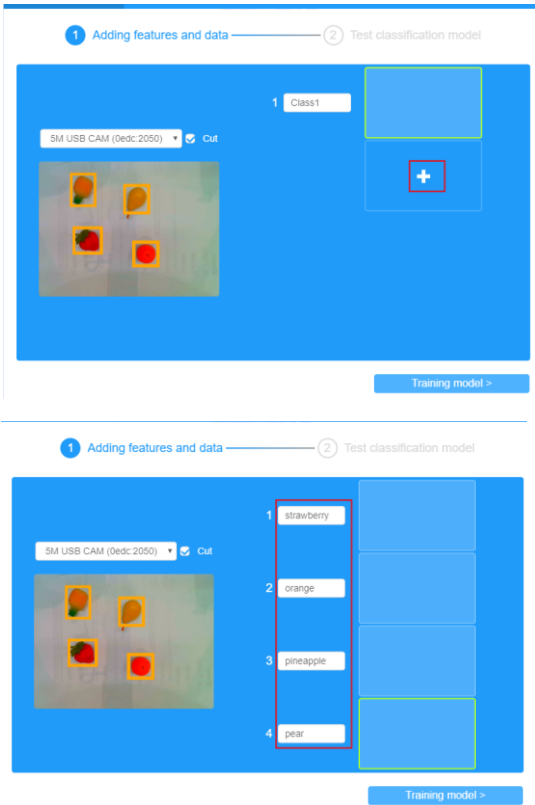

Figure 2.8 Create image label
3) Create a data set. Click + to create a new data set and create a label for each data set, as shown in Figure 2.8